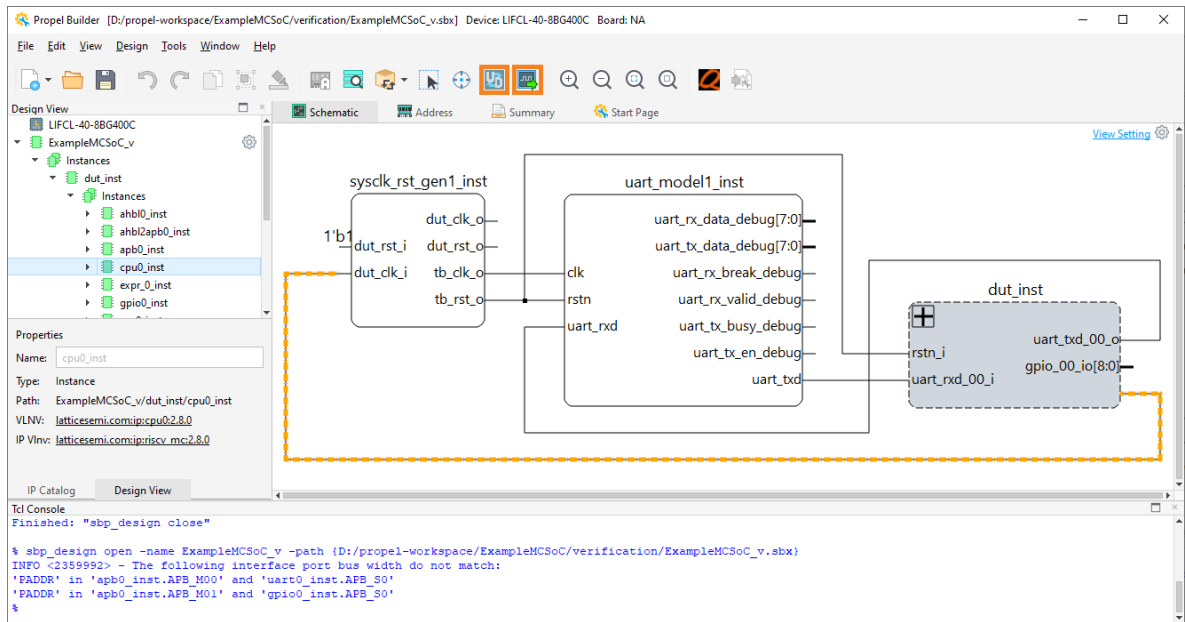

Figure 3.36. SoC Verification Project
2. Click the **Switch** icon on the toolbar to switch between the SoC design and SoC verification project (Figure 3.36).
3. After the SoC design is switched to an SoC verification project, click the **Generate** icon to generate the simulation environment. Click the **Launch Simulation** icon (Figure 3.36).